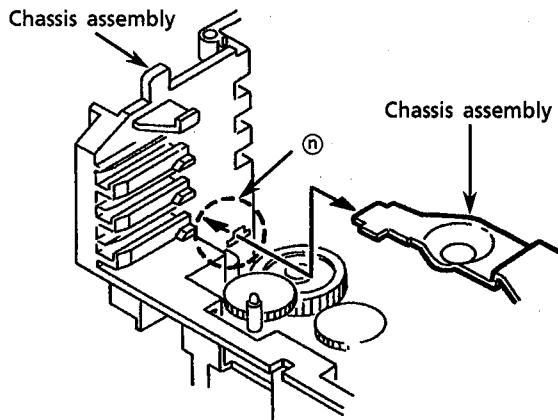

Fig. 45
3. Remove the gear bracket from the chassis ass'y's ① securing top of the gear bracket. (See Fig. 45.)